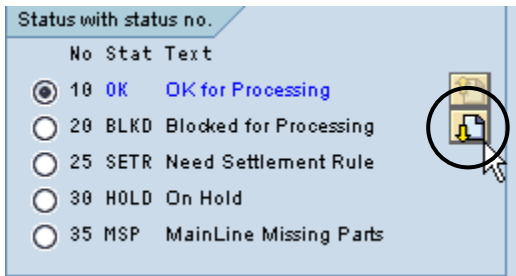

Fig. 4
5.7. Change the status in the "Status with status no." section (Fig. 4)
5.7.1. Click on the page down icon (Fig. 4)